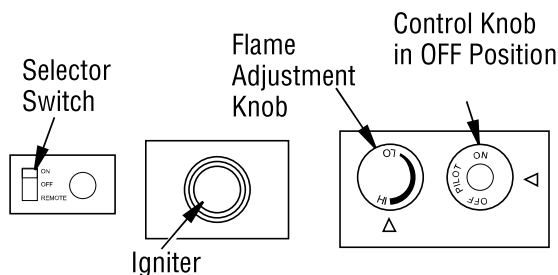

Figure 41 - Control Knob, Igniter Button and Remote Selector Switch
- Wait five (5) minutes to clear out any gas. Then smell for gas, including near the floor. If you smell gas, STOP! Follow "B" in the safety information, column 1. If you don't smell gas, go to the next step.
- Press in and turn control knob counterclockwise ↺ to the PILOT position. Press in control knob for five (5) seconds (see **Figure 41, Page 26**).
After lighting, let pilot flame burn for about one minute. Turn control knob to ON position. Adjust flame adjustment knob anywhere between HI and LO. Slide the selector switch to the REMOTE position (see **Figure 41**).